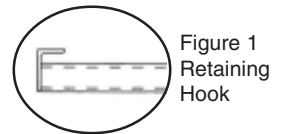

Figure 1
- 4.) Carefully move the fork lift backwards an inch or two to lock the pallet into the retaining angle. See Figure 1.